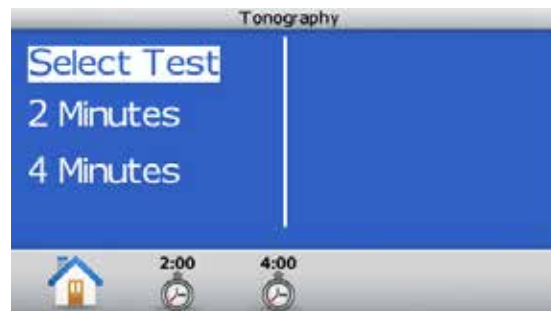

Figure 7-2, 2-Min/4-Min
3. Touch the 2-MIN or 4-MIN icon to select the test time. Refer to Figure 7-2.